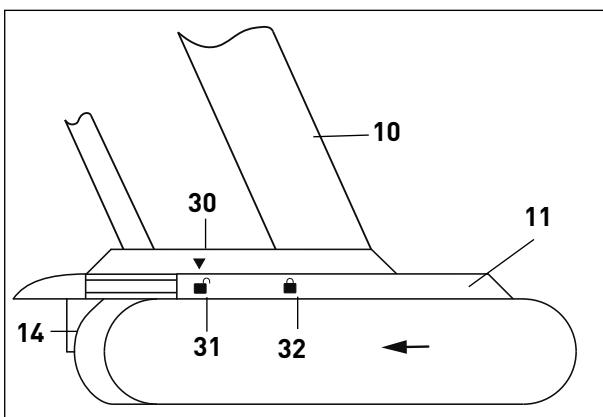

Figure 3
**Step 2 - Attach the Battery - Figures 3 & 4** - To attach the battery (11) onto the bottom of the handle (10), align the arrow (30) on the base of the handle with the open lock symbol (31) on the battery (figure 3). The battery will then be lined up between the grooves on the handle base. Slide the battery toward the front of the handle until the arrow on the base of the handle (30) is lined up with the locked symbol (32) on the battery and it clicks into place (figure 4).
**To remove the battery**, push the battery release button (14) and slide the battery toward the back of the handle until the arrow (30) on the base of the handle lines up with the open lock symbol (31) on the battery. Lift battery off.